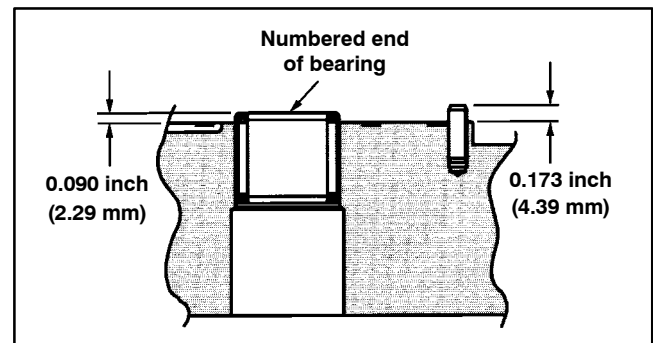

Figure 42
A. Check the bearing (45) (press fit) in backplate (20). If needles remain in cage, move freely and setting is at the dimension shown in Figure 42, bearing removal is not required.
B. Check roll pin (38) in backplate (20). If tight and set to the dimension shown in Figure 42, removal not required.
8. Place exterior retaining ring (3), thrust race (12), thrust bearing (13), second thrust race (12) and second retaining ring (3) onto drive shaft (21). Position washer (24) and shaft seal (25) onto shaft.
9. Install shaft assembly into front of housing. Seat seal (25) into position with seal driver and retain with interior retaining ring (2).
10. Install servo piston follower (8) onto camplate dowel pin. Install camplate (11) carefully onto bushing (44) (coat bushing surface with hydraulic oil), aligning servo piston follower (8) with slot in servo piston assembly (7).
11. Position housing in a horizontal position. Holding camplate (11) in position with screw driver through controller linkage passageway at the top of housing, place rotating kit assembly (6) over shaft and into housing until pistons are against camplate (11). Make sure all parts are in housing completely and are properly positioned. Return the pump to the vise with open end of housing up, clamping housing on the outer portion of the flange.
12. Install gasket (32) onto housing.
13. If necessary, press new bearing (45) and roll pin (38) in backplate (20) to dimension shown in Figure 42. Note: Bearing should be installed with the numbered end outward. Roll pin should be installed with split oriented away from bearing.
15. Install new O-ring on bypass valve (14). Install bypass valve (14) into backplate (20). Note: Make sure paddle of bypass valve is perpendicular to relief valve axis prior to installing or damage could result.
16. Apply a small amount of petroleum jelly to the steel side of valve plate (18) to hold in place for installation. Aligning the index pin, place the valve plate (18) in position onto the backplate (20), with steel side against backplate.
17. Install backplate assembly (20) onto housing assembly (19). Make sure ports are positioned correctly and that valve plate (18) and gasket (32) stay in place.
18. Retain backplate (20) with four cap screws (15). Torque cap screws from **27 to 31 ft-lb (37 to 42 N-m)**.
19. Install control housing gasket (34) onto housing. Install orifices (30) into servo control assembly (28) and retain in position with petroleum jelly. Position the feedback link at 90 degrees from control housing. Install manual servo control assembly (28) onto housing making sure feedback link entered small groove in servo piston assembly (7).
20. Secure control assembly with six socket head screws (17). Torque screws from **40 to 48 in-lb (4.5 to 5.4 N-m)**.
21. Install control arm (27) onto control assembly input shaft. Retain with lock washer (23) and nut (22). Torque nut from **4 to 6 ft-lb (5 to 8 N-m)**.